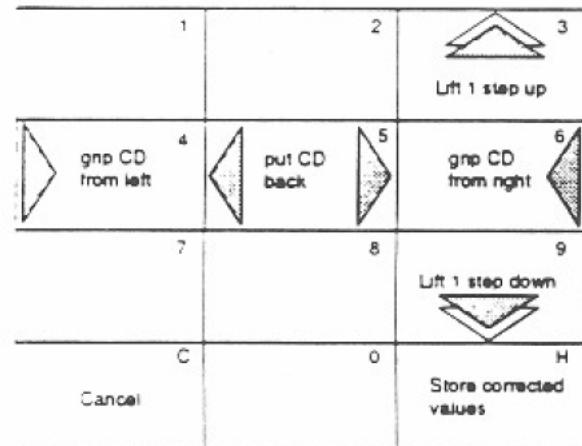

Figure 4 Keyboard layout during service program P159
The lift is moved automatically to tray 49 (reference tray). Now you can perform corrections of the lift position corresponding to the position of tray 49 (see figure 4).
- 5 Use the keyboard of the phonograph to manually gnp or to put back a CD tray (see figure 4).
- 3 Use the keyboard of the phonograph to manually gnp or to put back a CD tray (see figure 4).